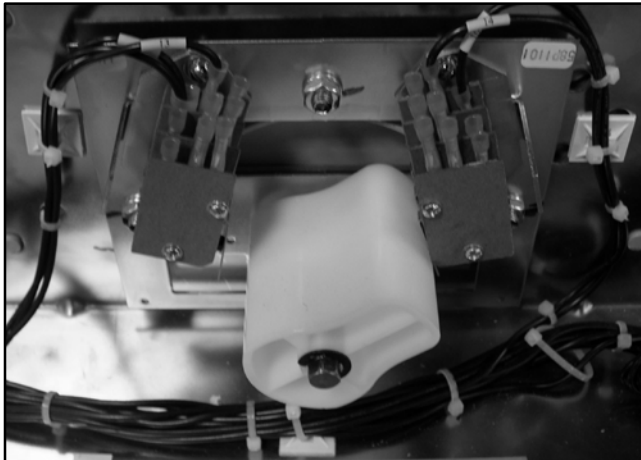

Figure 7-43 Microswitch Fast-On Connectors
6. Disconnect the fast-on connectors. See Figure 7-43.